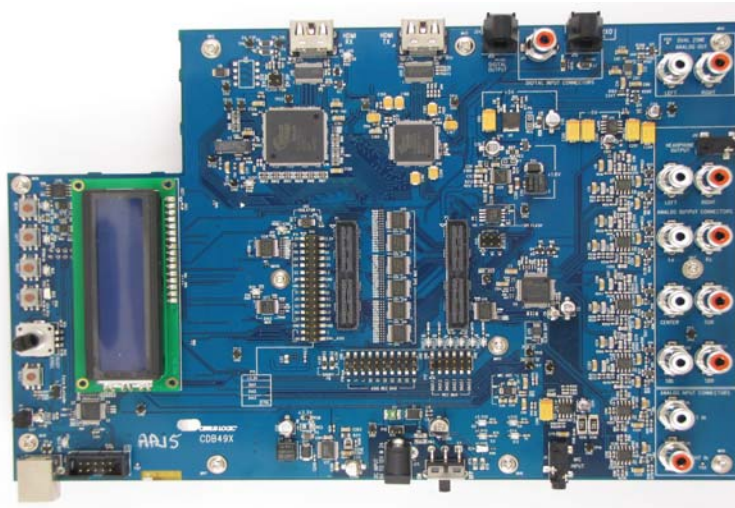
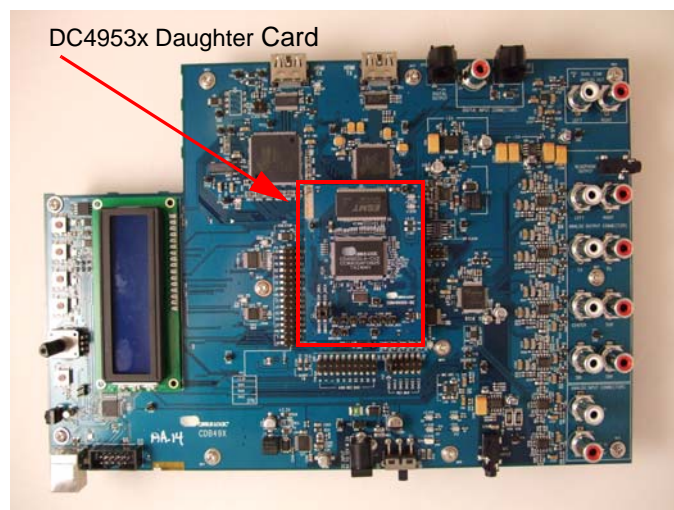

Figure 1-1. CDB49x Evaluation Base Board (without DC4953x Installed)
Figure 1-2. CK49x Evaluation System (CDB49x Evaluation Base Board (with DC4953x Installed)
2. In this manual, the main (large) board is called the "CDB49x Evaluation Board as shown in Figure 1-1." When a daughter card is installed on the CDB49x Evaluation Board as shown in Figure 1-2, the board is then called the "CK49x Evaluation System"